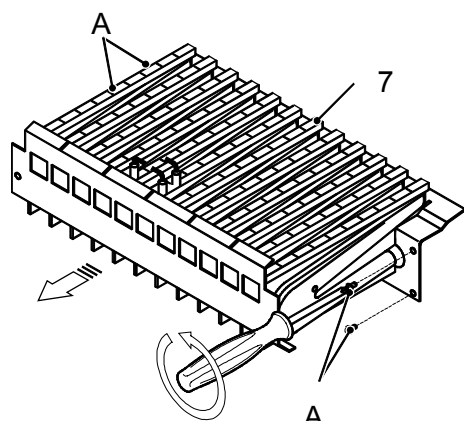

Figure 9.1
- 5) Loosen the screws A and remove the burner 7 (Figure 9.1).